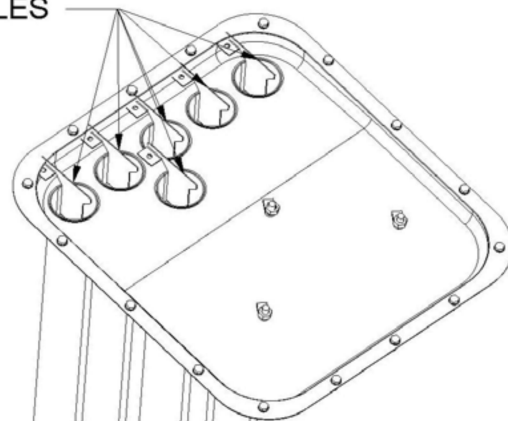

Figure 14: Flue Baffle Location and Removal
12. Remove the flue baffles from inside the tubes. Refer to Figure 14.